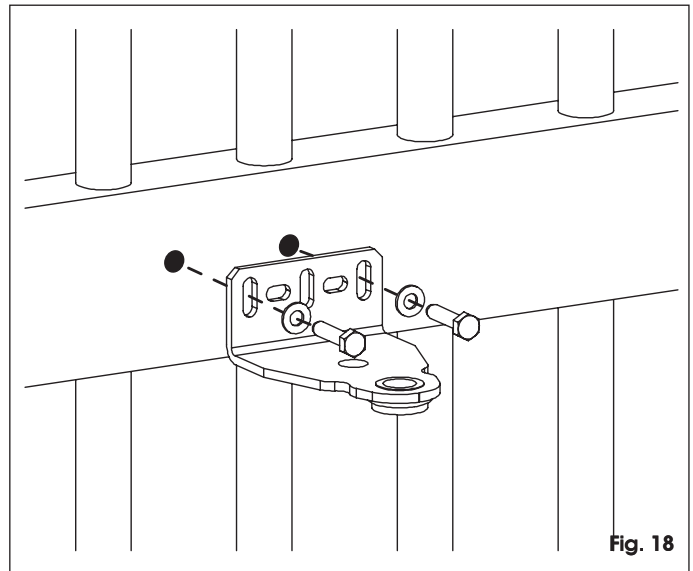

Fig. 18
- Definitively secure the front bracket, using a suitable securing system as indicated in figure 18.